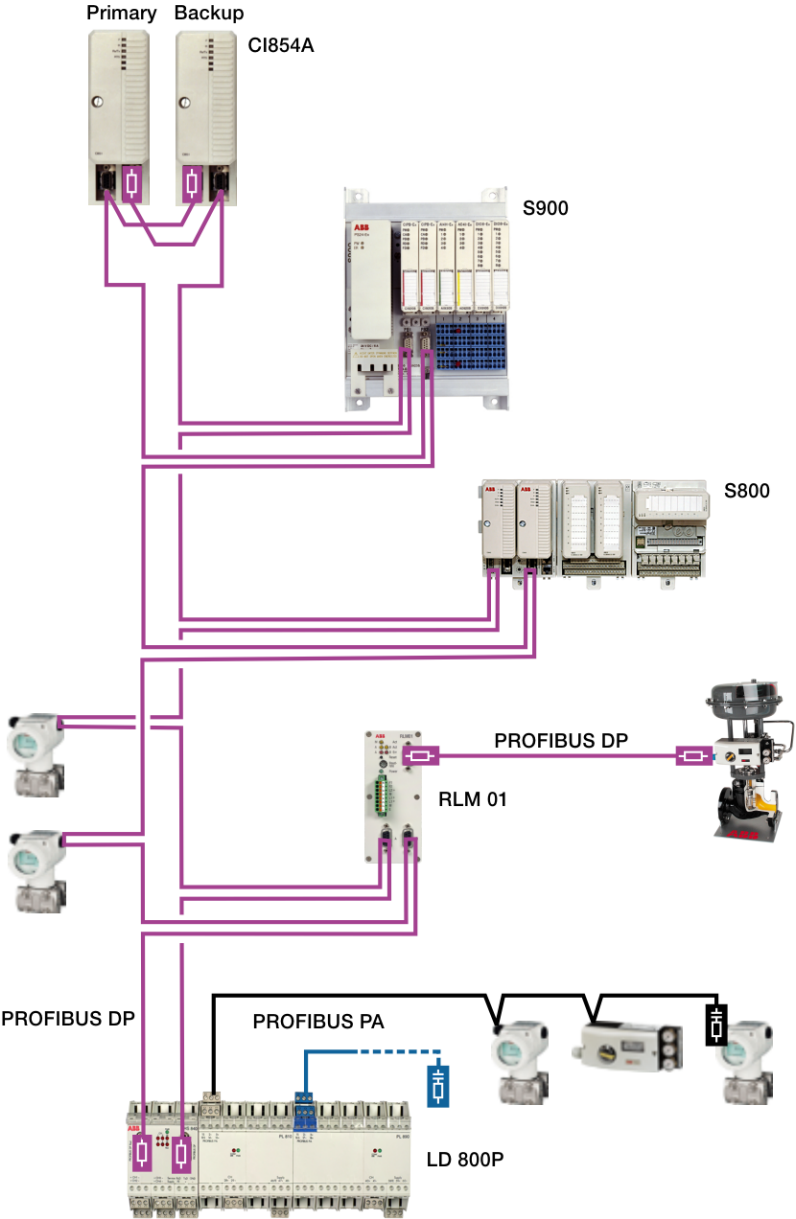

Figure 34. Master, Line and Slave Redundancy
4. If the CI854(A) is at the end of the PROFIBUS DP cable, switch the bus termination ON. Otherwise leave the bus termination switched OFF.
5. If the CI854A is installed in a redundant configuration connect the PROFIBUS DP cable to primary and backup module. Do it like described in Figure 34. Switch the termination ON for the interface on primary or backup module that is at the end of the line.